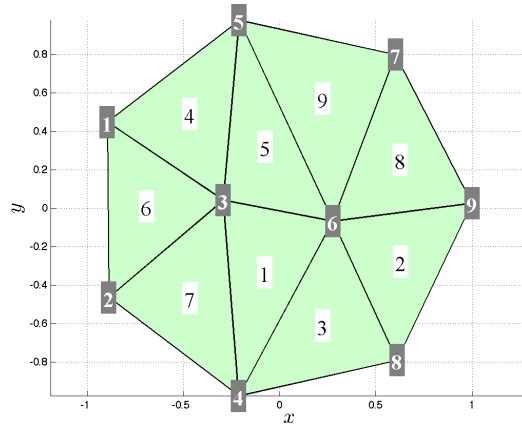

Figure 1: Example of a triangular mesh
- **The triangular linear mesh.** This mesh consists of `np` vertices and `nt` triangles. For the example in figure 1 we have `np` = 9 and `nt` = 9.